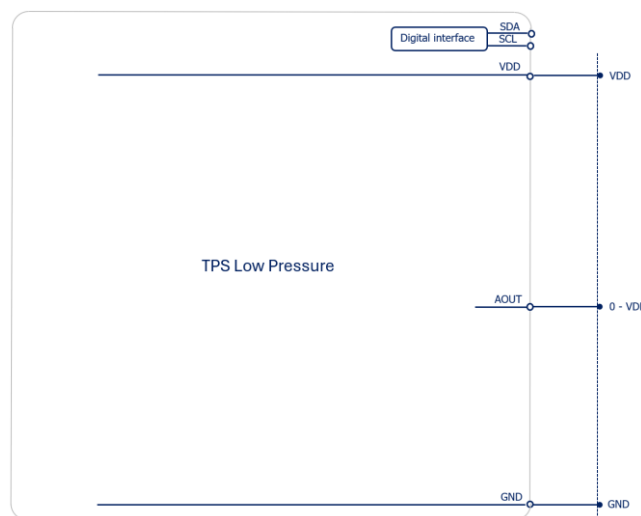

Figure 13: Ratiometric analog output
1. Following the standard communication for a three-pin module, AOOUT is connected to the SDA pin, as depicted in the image above (Figure 13).